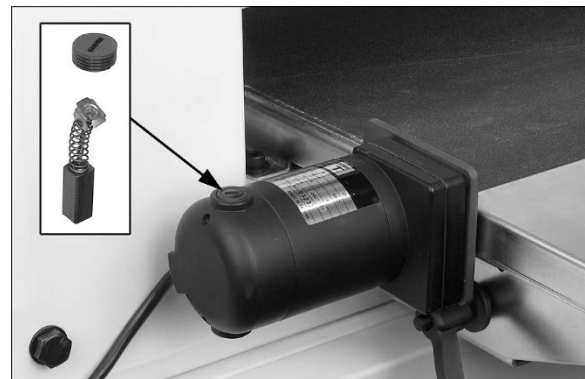

Figure 10-4: motor brush inspection
2. Unscrew and remove cap with flat blade screwdriver. See Figure 10-4.